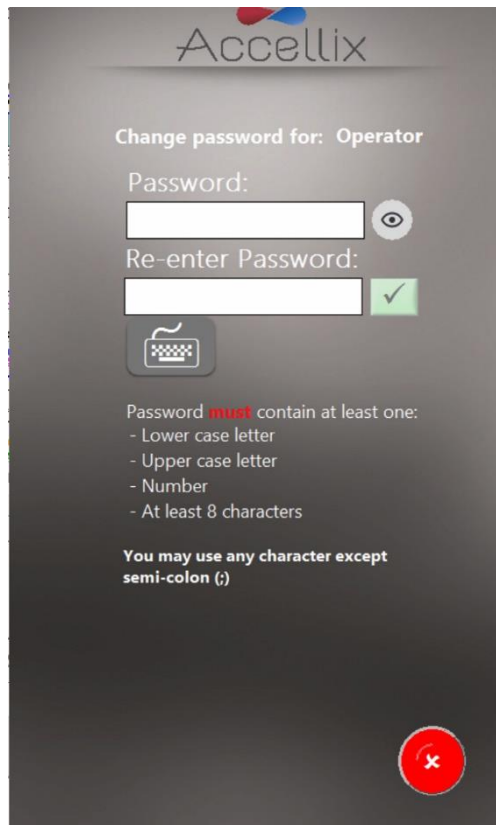

Figure 6: Change Password screen
1. Tap the **Change Password** icon . The **Change Password** screen (Figure 6) is displayed: